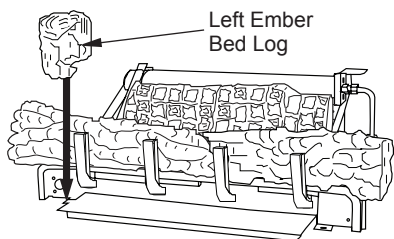

Figure 24 - Installing Left Ember Bed Log
- Place left ember bed log (18" D-073, 24" & 30" D-048) as shown in Figure 24. The log has groove on one side that sets on the ember bed pan. The back side of this log needs to rest against the front of the base assembly. Make sure the flame from the ember pan does not touch the ember bed log.